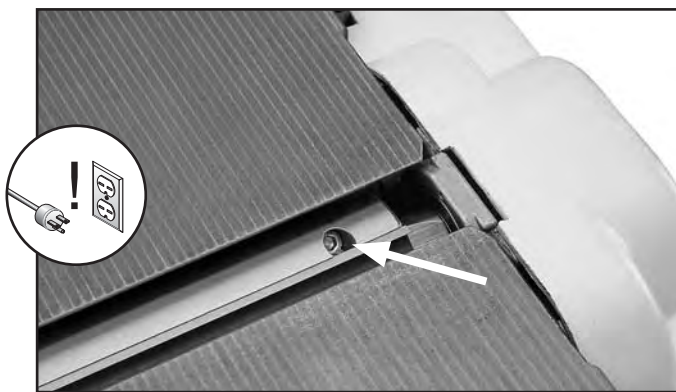

Figure 67. Jack screw access hole.
7. Using a 5mm hex wrench, rotate the jack screws (**Figure 67**) in the access holes to raise or lower the knife. When the knife is set correctly, it will barely touch the bottom edge of the knife setting gauge on both sides of the cutterhead when it is rotated back and forth. Snug the gib bolts tight enough to just hold the knife in place. Repeat **Steps 5-7** with the remaining knife.